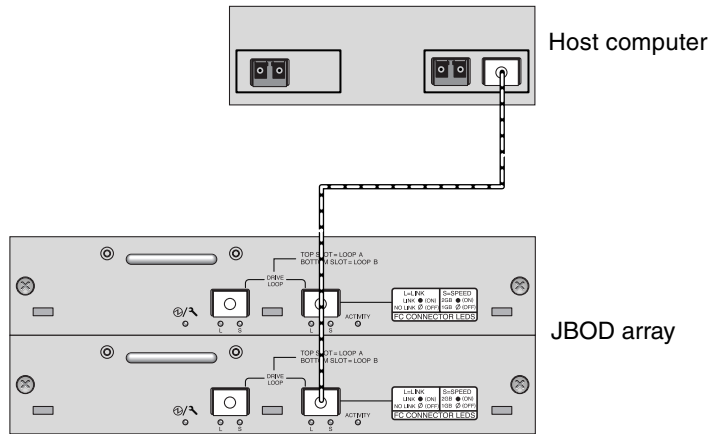
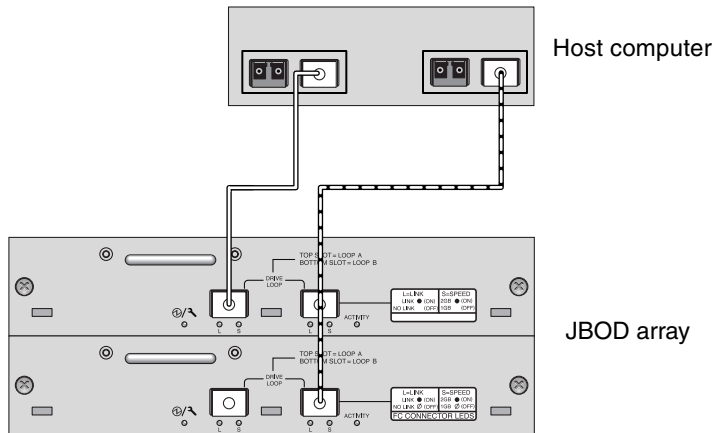

FIGURE B-2 Sun StorEdge 3510 FC JBOD Array Attached to a Single HBA Port
FIGURE B-3 Sun StorEdge 3510 FC JBOD Array Attached to Two HBA Ports
- Check the back panel. The back panel of the Sun StorEdge 3510 FC JBOD resembles the back panel shown in FIGURE B-2. See FIGURE 4-3 for an illustration of the back panel of the Sun StorEdge 3510 FC RAID array.
You can connect a Sun StorEdge 3510 FC JBOD array to an FC port, a port on a single-port HBA, or a single port on a dual-port HBA. FIGURE B-2 shows an example of a Sun StorEdge 3510 FC JBOD array with 12 drives, connected to a host computer over a single loop to a single FC port. In this example, the port is one of a pair of ports on a dual-port HBA.
FIGURE B-3 shows an example of a Sun StorEdge 3510 FC JBOD array with 12 drives, connected to a host computer over two loops to two FC ports. In this example, both ports are on dual-port HBAs.
Use fiber-optic cables to connect one or two HBA ports on the host computer to the Sun StorEdge 3510 FC JBOD array, as shown in FIGURE B-2 and FIGURE B-3.